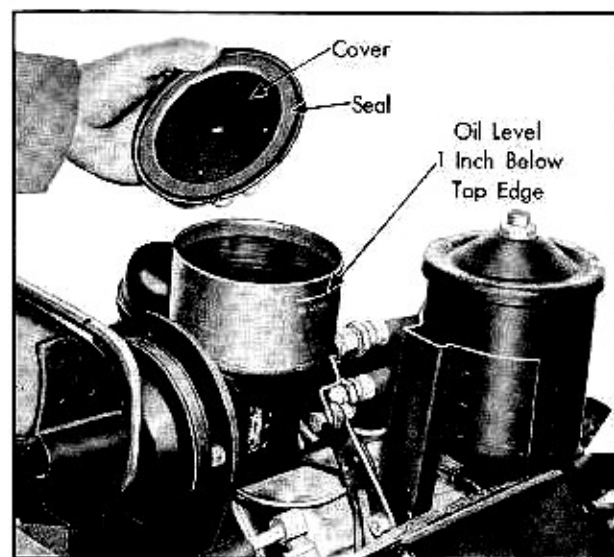

Fig. 7-9 Checking Pump Fluid Level
2. Level of fluid should be $1/2$ " below top edge at oil level mark as indicated on outside of tank, Fig. 7-9.